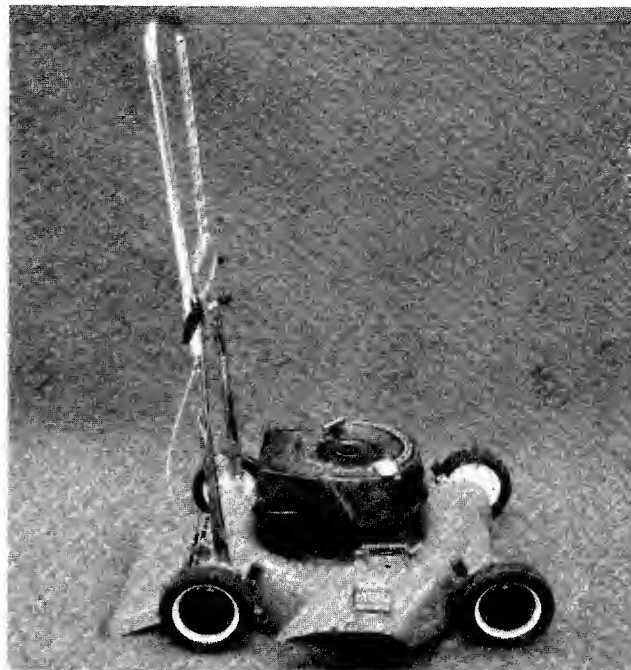

FIGURE 19.
Move the hairpin cotters to the outer hole on weld pins. See figure 2. Press inward on the bottom of the lower handle and push forward. The handle will lock in this position. See figure 19.
3. Pull inward on the bottom of each side of the lower handle and push forward. See figure 19.